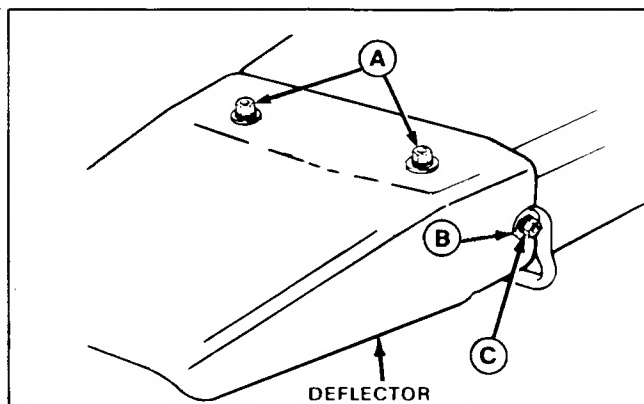

Figure 22.
To operate without the grass collection system, remove the blower assembly by removing the front wing nut and cup washer, and slipping belt off of the pulley. Reinstall the mower deflector (figure 22) and the original hardware. Install two carriage bolts from bottom and install washers and nuts (A). Install the front washers (B) and nut (C). Be sure flat washers and lockwashers are used at all three locations.